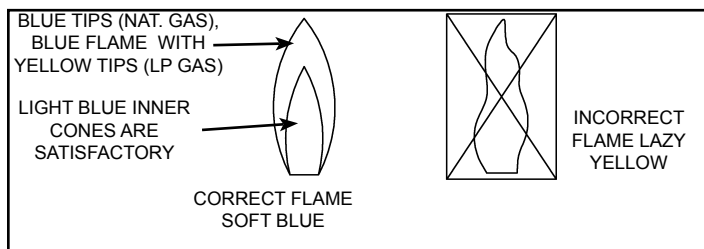

Figure 36
Inspect the burner flames through the viewport and compare them to the drawings in Figure 36. A properly operating burner should produce a soft blue flame. Blue tips with light blue inner cones are satisfactory. The tips of the flame may have a slight yellow tint. The flame should not be all yellow or have a sharp blue-orange colour. Contaminated air may cause an orange coloured flame. Contact a qualified service technician if the flame is not satisfactory.
- Build up of soot and carbon on the main burner. Check for a soft blue flame (see Figure 36).
At least once a year a visual inspection should be made of the main burner and the hot surface igniter assembly for proper flame characteristics and ignition sequences. This can be done by removing the outer door and viewing the main burner operation through the viewport on the inner door (see Figure 4). The main burner should provide complete combustion of gas, ignite rapidly, give reasonably quiet operation, and cause no excessive flame lifting from the burner ports. If the proper flame characteristics are not evident (see Figure 36),